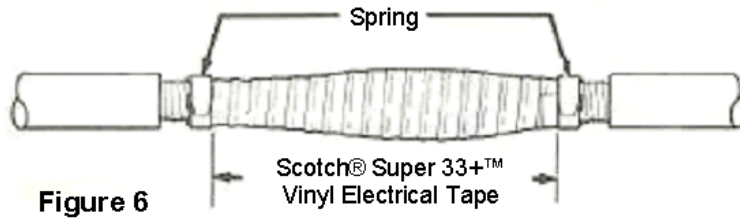

Figure 6
1. Overwrap the entire splice opening with 1 half-lapped layer of Scotch® Super 33+™ Vinyl Electrical Tape, starting and ending at springs on cable armor (or at ends of cable jackets on non-armored cable). (Figure 6)